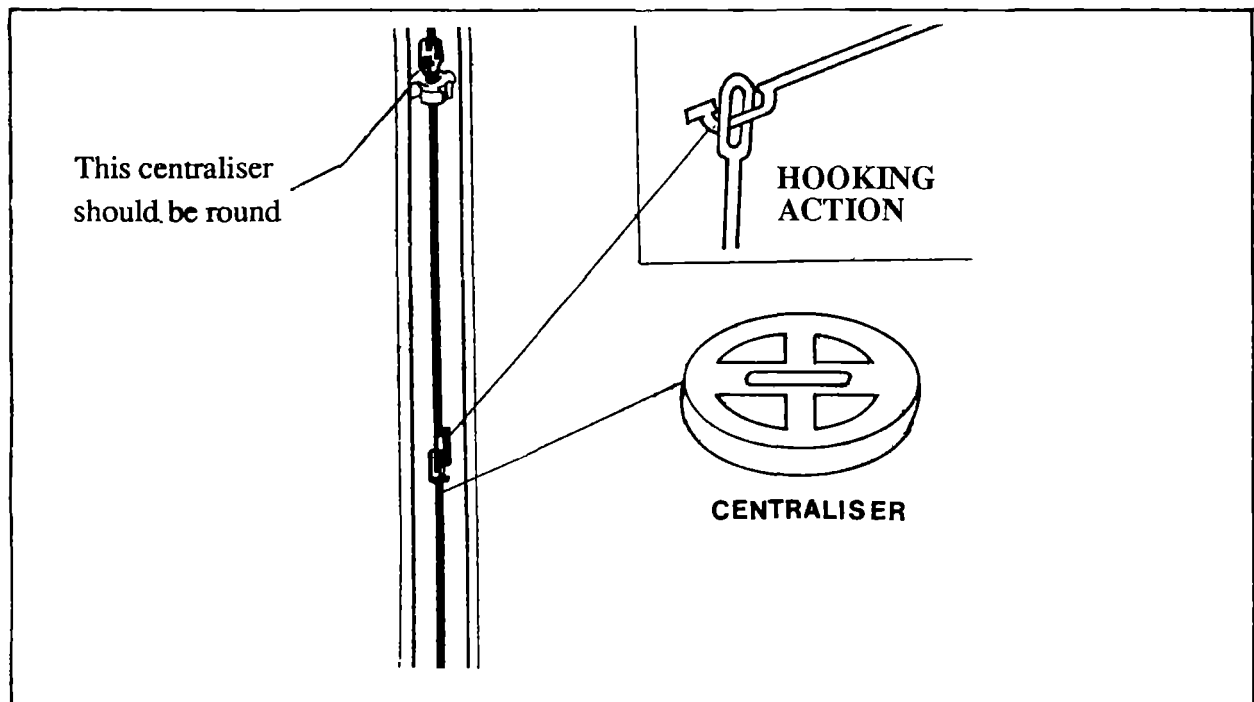

FIG 6 PUMPROD AND CENTRALISER
- ii. Prevent friction between the rising main inner walls and the pumprods during pumping. (See fig 6)
- the hooked design is for ease dismantling and assembling during both repairs and service. (See fig 6)